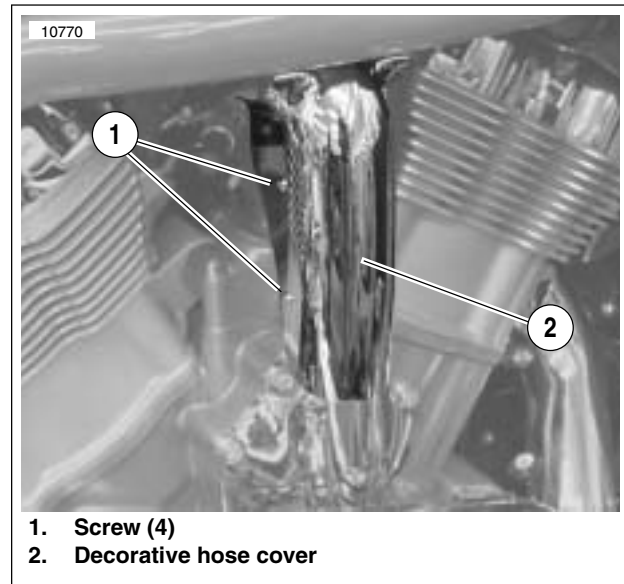

Figure 7-5. Coolant Hose Cover (Engine right side)
1. See Figure 7-5. If necessary, remove four screws (1) and decorative cover (2) from water pump hose.